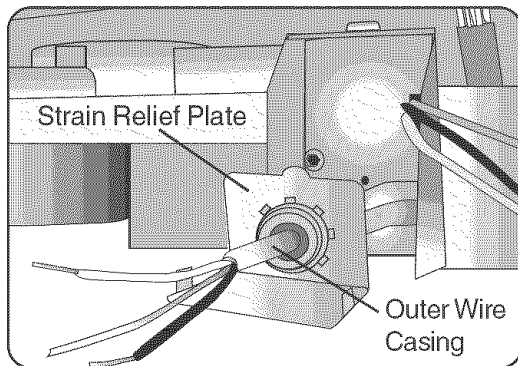

Figure 29
- 2 Pass the electrical supply cable through the strain relief, as shown in **Figure 29**. Make sure the outer wire casing extends about 1/2" (13mm) through the strain relief.